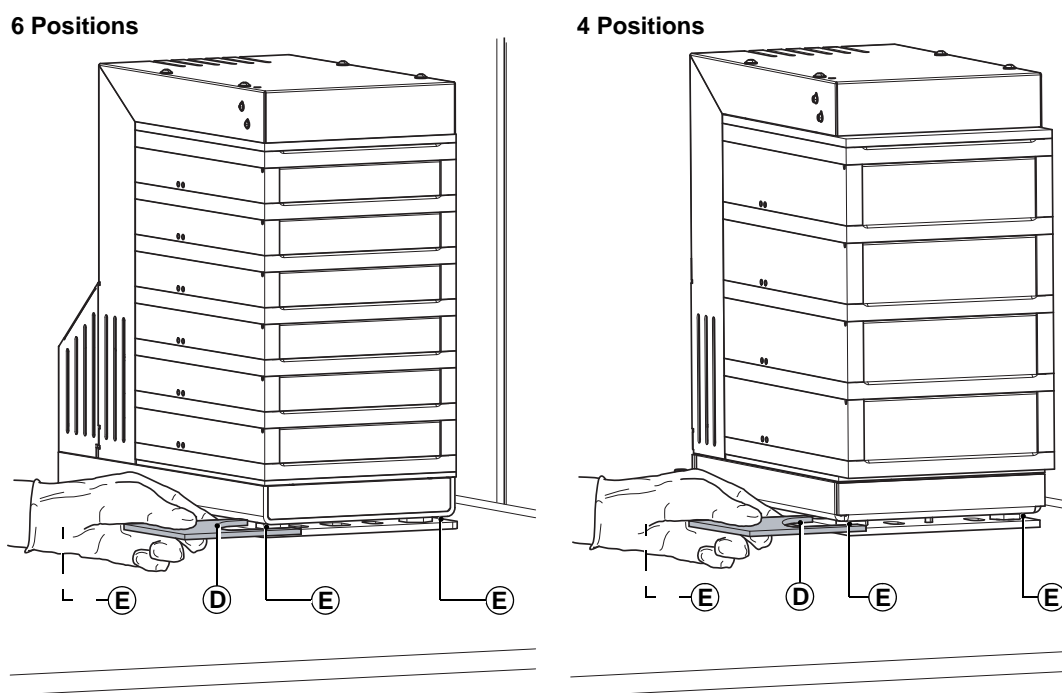
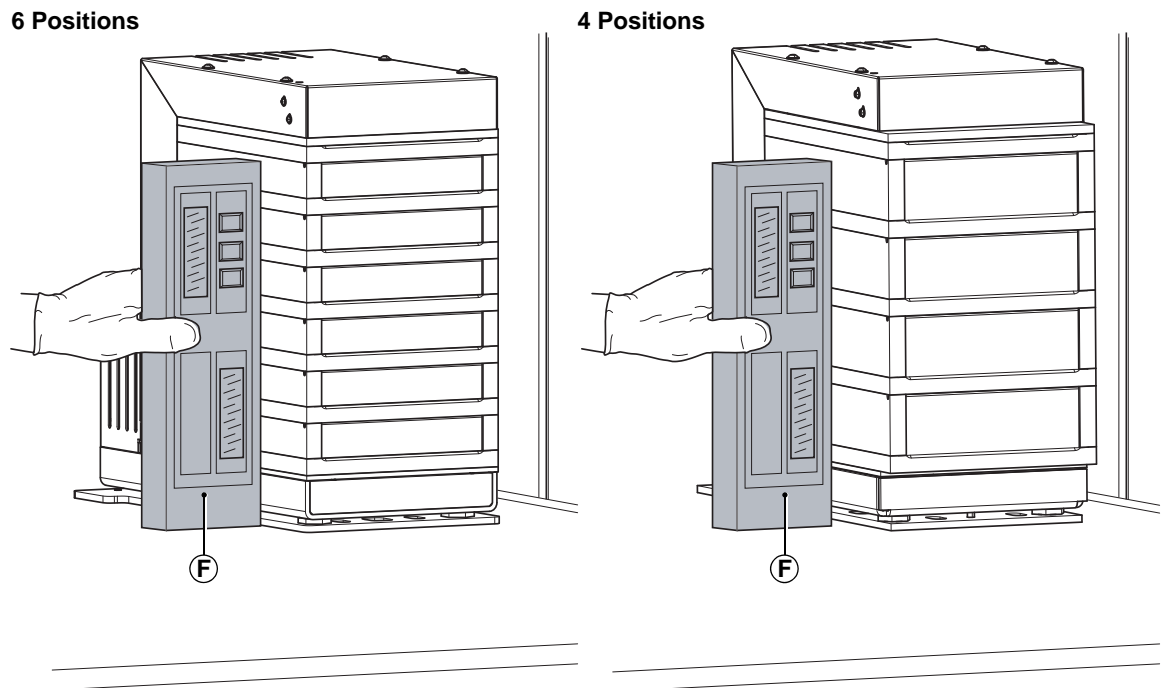

Fig. 5-4 Special tool to adjust feet
Fig. 5-5 Levelling the heated incubator
- 1 Put the incubator (A) on the support plate Fig. 5-4, § 5-6.
- 2 Use the special tool (D) to adjust the three adjustable incubator feet (E) Fig. 5-4, § 5-6.
- 3 Using the special tool (D), adjust the left feet until the incubator is perpendicular to the worktable Fig. 5-4, Fig. 5-6. Use a precision level (F) to check Fig. 5-5, Fig. 5-7.